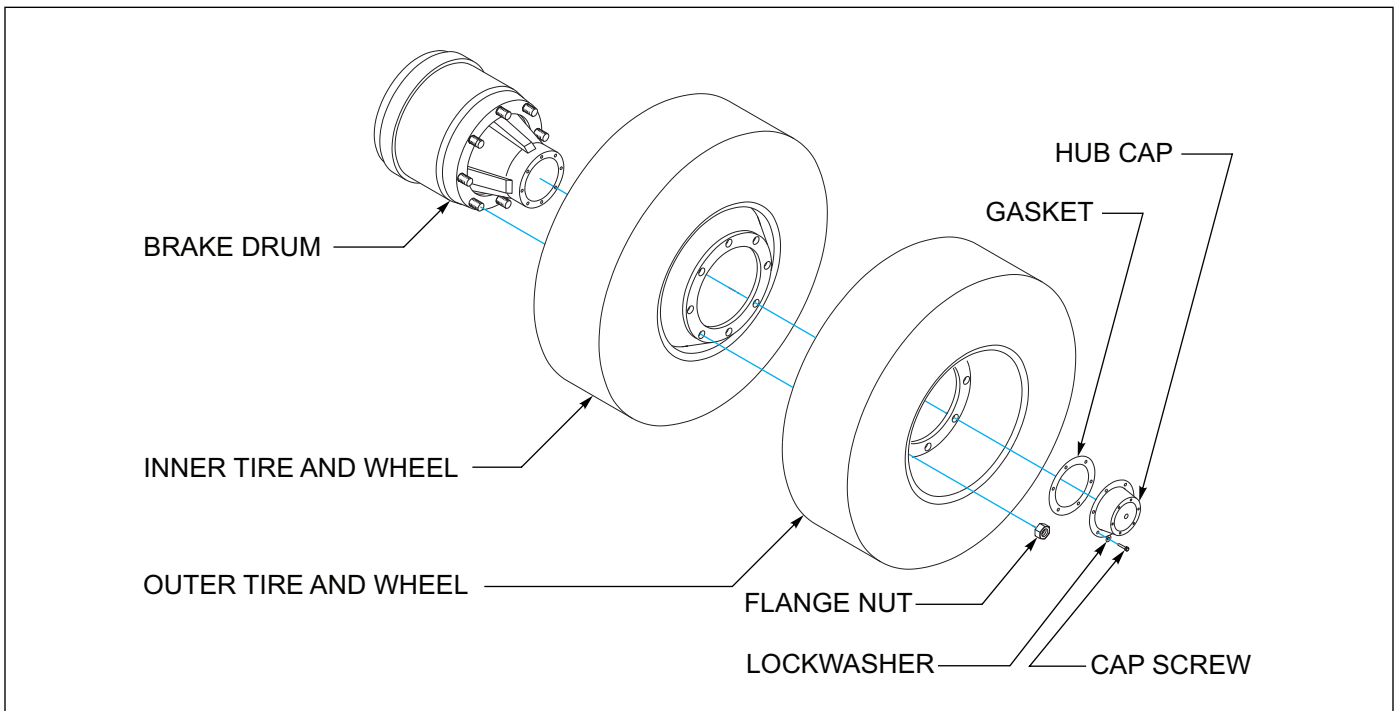

Figure 4-21: Mounting Tires and Wheels
1. Make sure that all mounting surfaces are clean and free of rust, dirt or paint. A wire brush may be used to clean these surfaces (See Figure 4-21.)
4. Install the flange nut and tighten to 50 foot-pounds using the sequence in (Figure 4-21.) Then tighten to full torque of 450 to 500 ft-lbs.